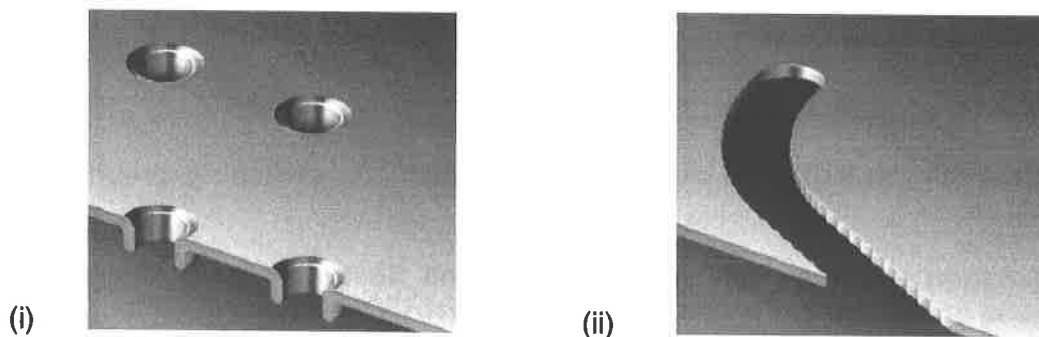

Figure 1 Common Product in Sheetmetal Works
- i. List down **SIX (6)** factors that affect extrusion. (6 marks)
- ii. Name the **TWO (2)** types of extrusion processes. (2 marks)
- (b) Write in details the **TWO (2)** types of extrusion (8 marks)
- (c) The image below is among the most common processes performed in sheetmetal works. Name and describe the process shown in **Figure 1**.